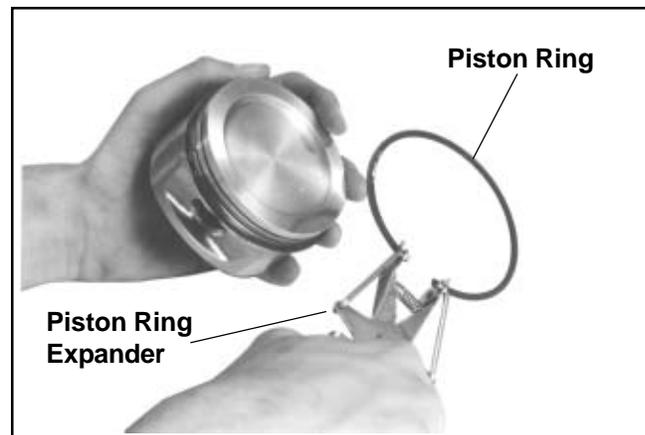
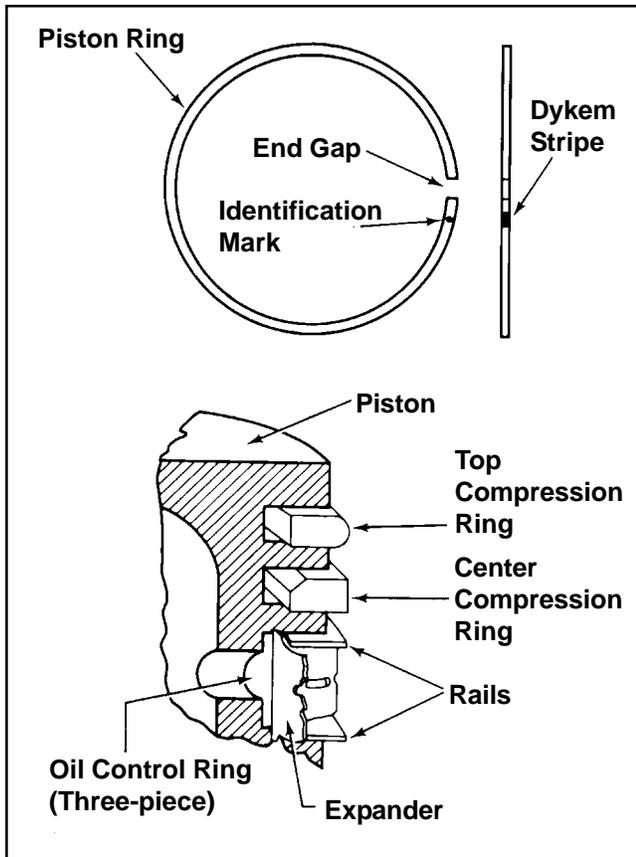

Figure 10-11. Installing Piston Rings.
Figure 10-12. Piston Ring Installation.
**NOTE:** Rings must be installed correctly. Ring installation instructions are usually included with new ring sets. Follow instructions carefully. Use a piston ring expander to install rings (see Figure 10-11). Install the bottom (oil control) ring first and the top compression ring last. Refer to Figure 10-12.